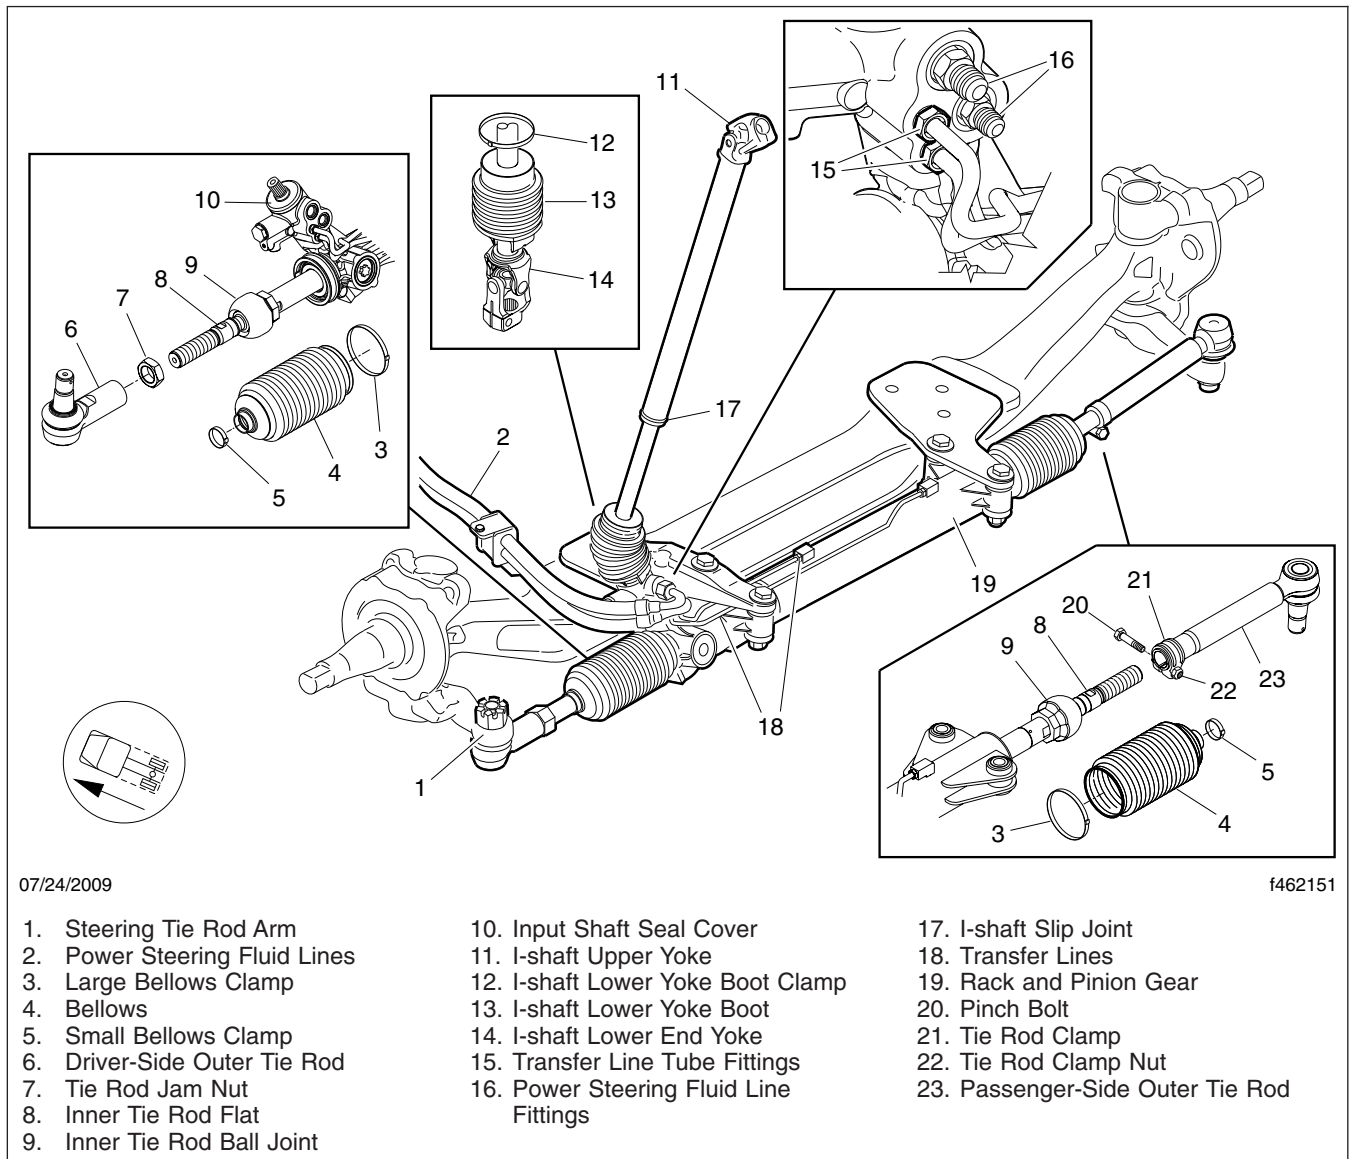

Fig. 6, Rack and Pinion Steering System
Inspect the rack and pinion steering system as described below, and repair or replace any components that are worn or damaged. Figure 6 shows the components of the rack and pinion steering system.
10. Check the tube fittings on the hard transfer lines of the gear, see Fig. 6, Item 15. If there is leakage from either of the fittings, replace the steering gear.
- 4.2 On the driver's side, loosen the jam nut. See Fig. 6. Note the number of exposed threads and the position of the outer tie rod to ease installation.
7. Disconnect the outer tie rods from the inner tie rods. If necessary, use a backup wrench on the inner tie rod flat to turn the inner tie rod. See Fig. 6.
Do not allow Terostat MS 939 sealant to come into contact with the inner tie rods. Mistakenly applying sealant to the inner tie rods may cause damage to the bellows and the gear. See Fig. 6.